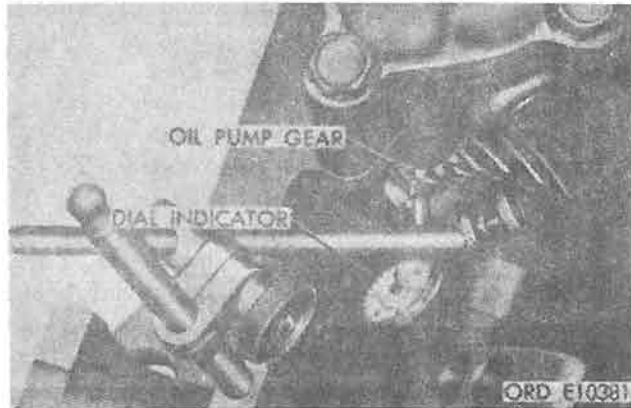

Figure 4-89. Measuring distributor and oil pump gear backlash.
a. **Gear Backlash.** Check and record backlash between oil pump drive gear and integral drive gear on camshaft by placing a dial indicator with the plunger bearing on one tooth of the pump drive gear (fig. 4-89).